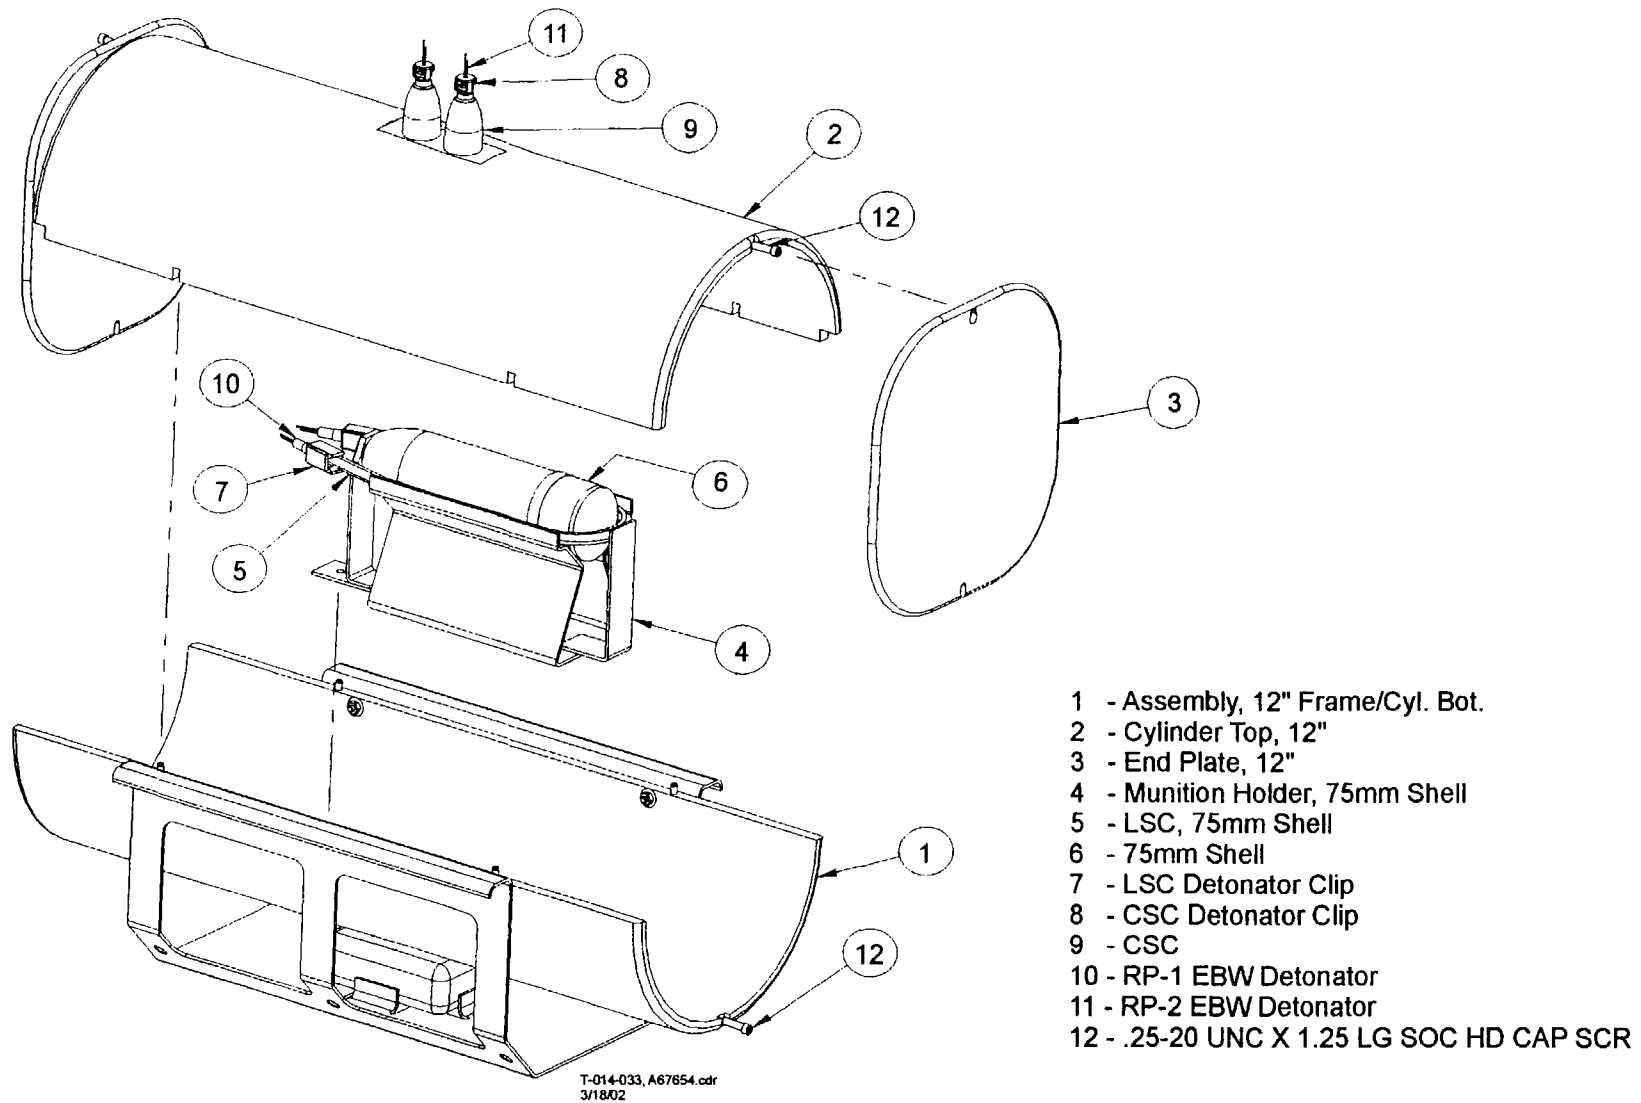

Figure 7-1. 75mm Shell FSS
- 3.3 **PLACE** 75mm shell onto munition holder so it rests securely in holder with aft end of munition toward the aft end of holder. Long holder tab at aft end provides exact positioning for LSC. Tapered end of munition will be coincident with the short holder tab (Figure 7-1).